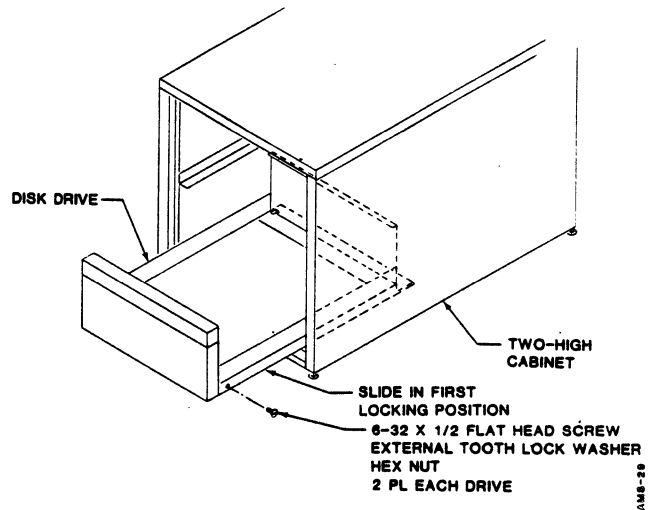

Figure 7-20. Installation of Locking Slide and Disk Drive Hardware
4. Re-extend disk drive with slides to first locking position. Install a (6-32 × 1/2 inch) flat head screw, lock washer and hex nut through the slide and into the front of each slide of the disk drive (see Figure 7-20) to hold the disk drive and slides together.